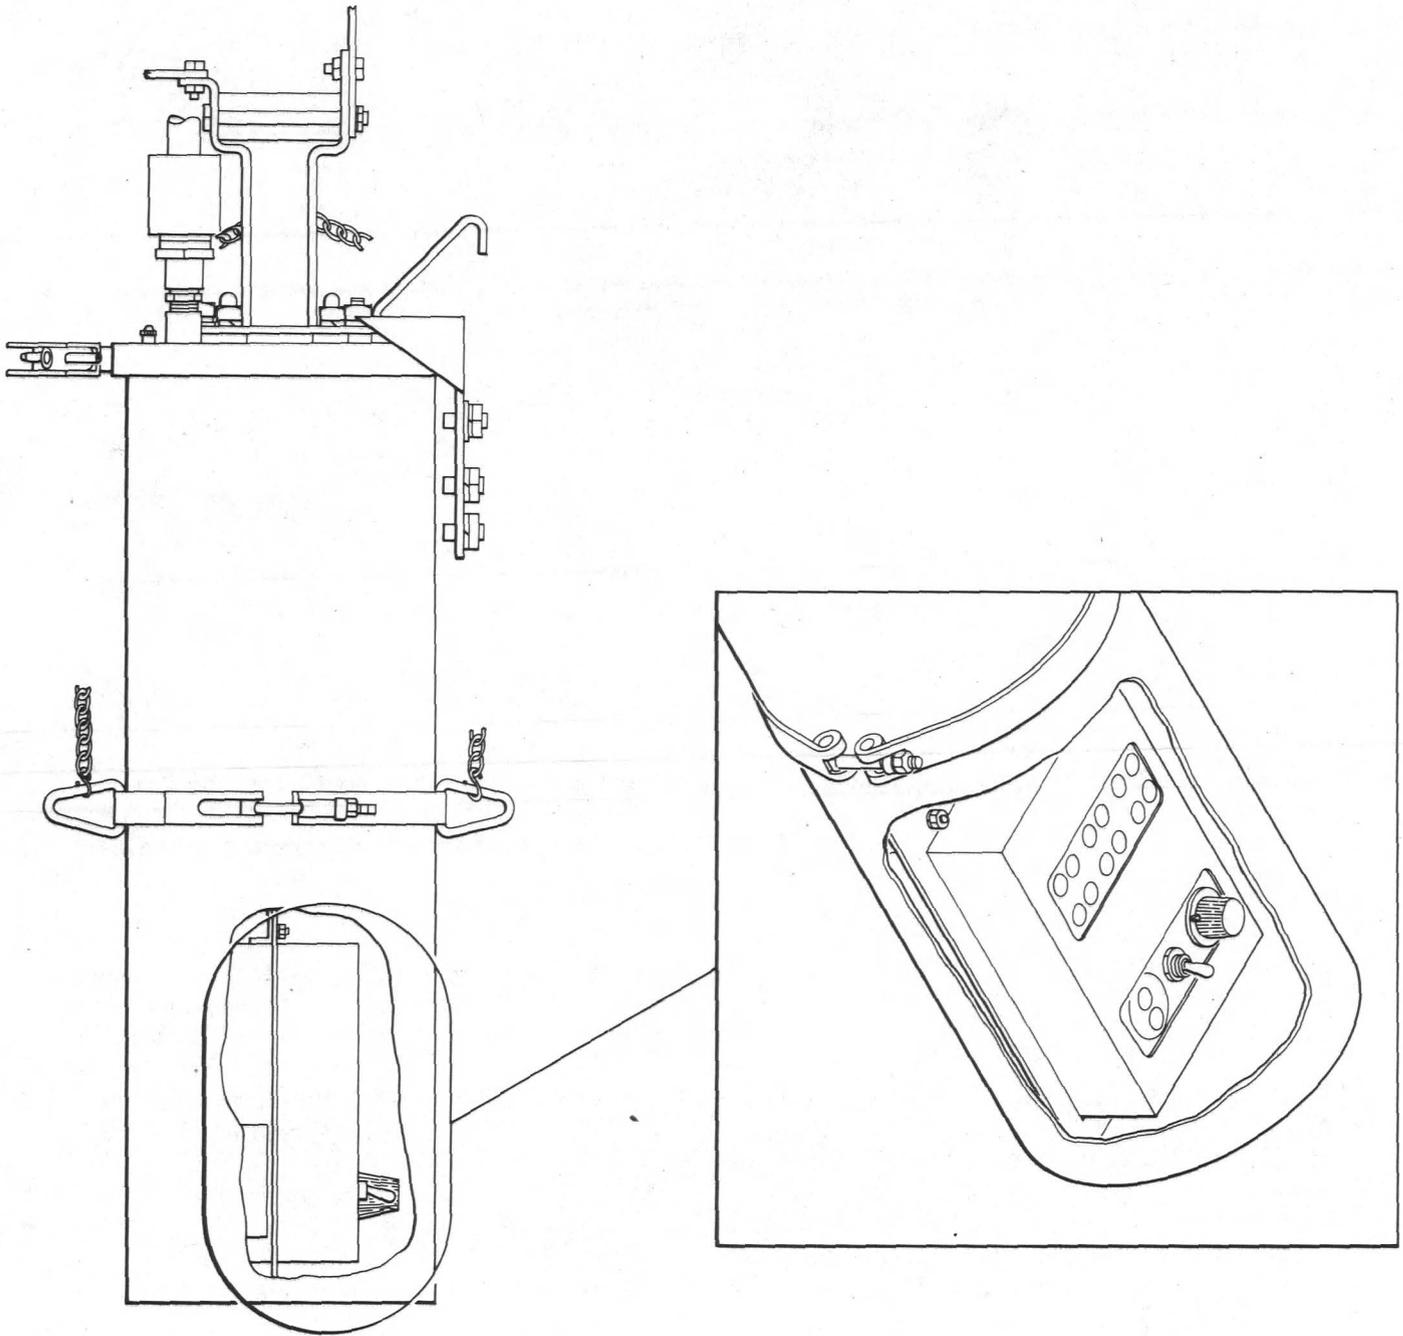

Fig. 4—467A Apparatus Case Equipped With KS-20159 Equalizer-Amplifier
2.04 Whenever it becomes necessary to mount the KS-20159 equalizer-amplifier on a pole or in a manhole, a 467-type apparatus case, as shown in Fig. 4, is used. A KS-20159 L7 mounting
2.05 The 467A apparatus case, as shown in Fig. 4, is designed for use in manholes and will house two KS-20159 equalizer-amplifiers, three 60A1A-3 connecting blocks, and two DPST power switches for the cable pair used for battery feed. The mounting bracket supplied with the 467A apparatus case should be replaced by a KS-20159 L7 mounting plate.